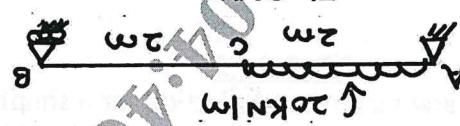

Fig Q3(b)
- b. Determine maximum slope and maximum deflection for the beam shown in Fig Q3(b) using Macaulay's method. (10 Marks)